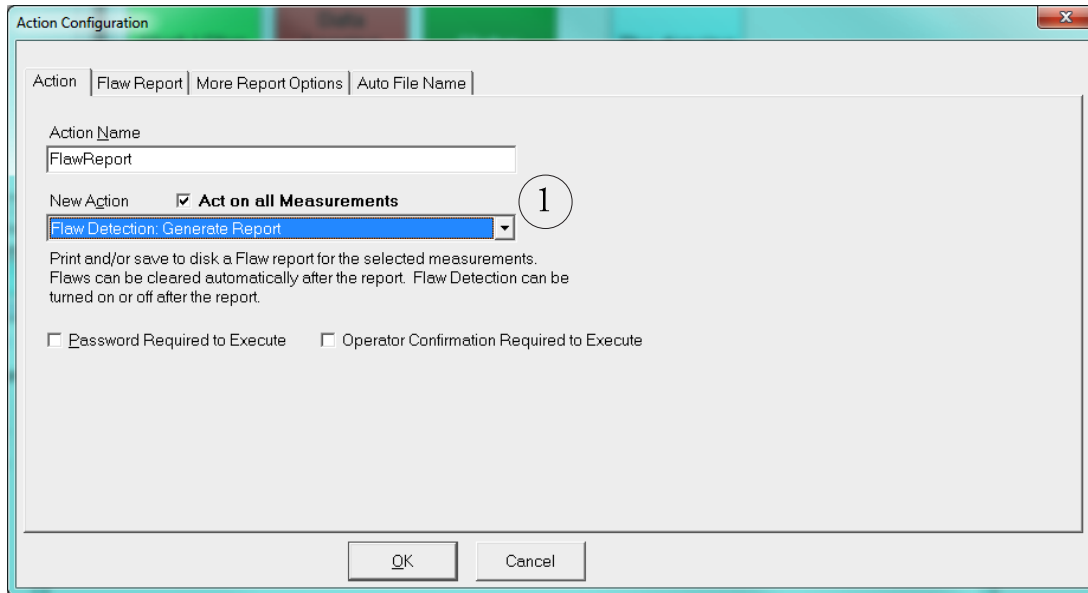

Figure 36. Generate Flaw Report.
- 6.1 Check the box next to Act on all Measurements (*Part 1 in Figure 36*).